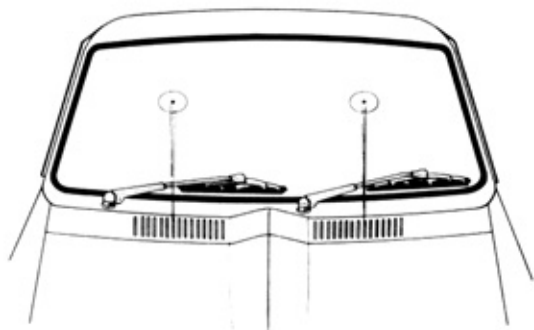

Fig.3-36 Injected Position X5721
2. Adjust the injected position as illustrated in the figure 3-36.